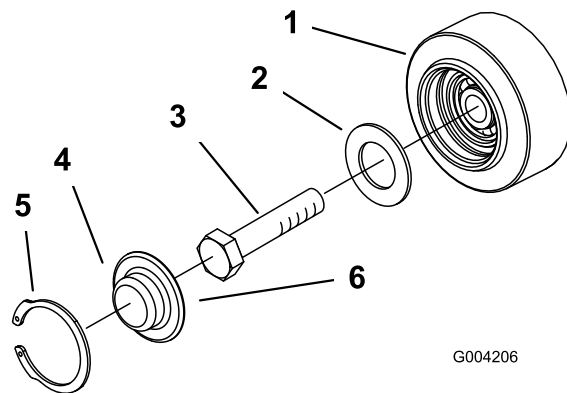

Figure 46
4. Check the grease under the cap and around the gasket (Figure 46). If it is dirty, gritty, or depleted, clean out all of the grease, replace the gasket, and add new grease.
6. Place the greased road wheel cap over the bolt head (Figure 46).
7. Secure the road wheel cap with the snap ring (Figure 46).
3. Remove the snap ring and cap from a road wheel (Figure 46).